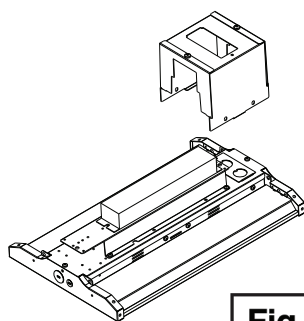

Fig. 1
1. Remove the wiring box from the fixture. **(Fig. 1)**